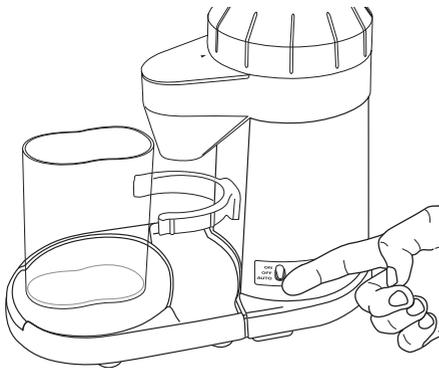

Figure 4
8. To grind coffee, flip the switch to the 'On' position, see figure 4.